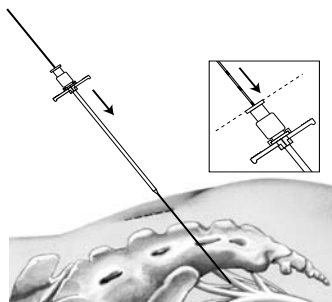

Figure 5. Fit dilator and introducer sheath over directional guide.
4. Holding the directional guide in place near the skin, fit the dilator and introducer sheath over the directional guide and advance into the foramen. Align the bottom of the third most proximal depth marker on the directional guide with the top of the dilator (Figure 5).